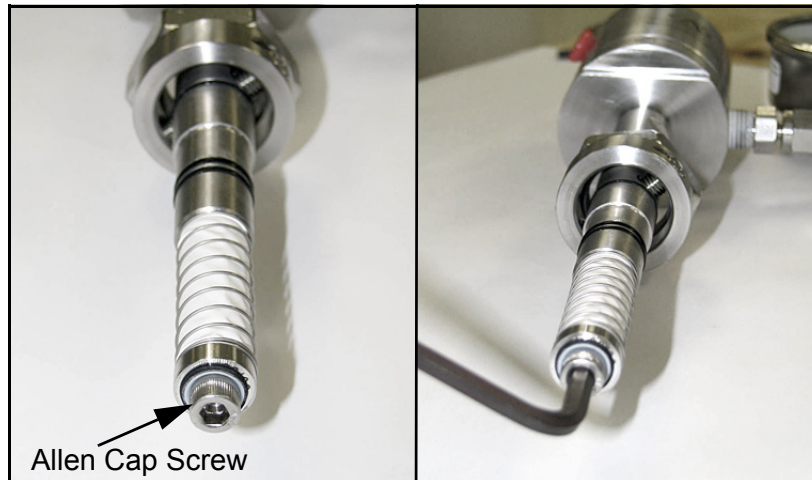

Figure 16: Checking/Tightening the Allen Cap Screw
1. Confirm that the Allen cap screw head's hex cavity is clean and free from foreign material. Confirm that the Allen cap screw that holds the membrane ferrule is torque-wrench tight (see *Figure 16* below). The torque value should be 10 inch-lbs. If the Allen cap screw is only hand-tight, the screw may protrude excessively, which could result in foot valve actuation when the probe is installed into the housing.